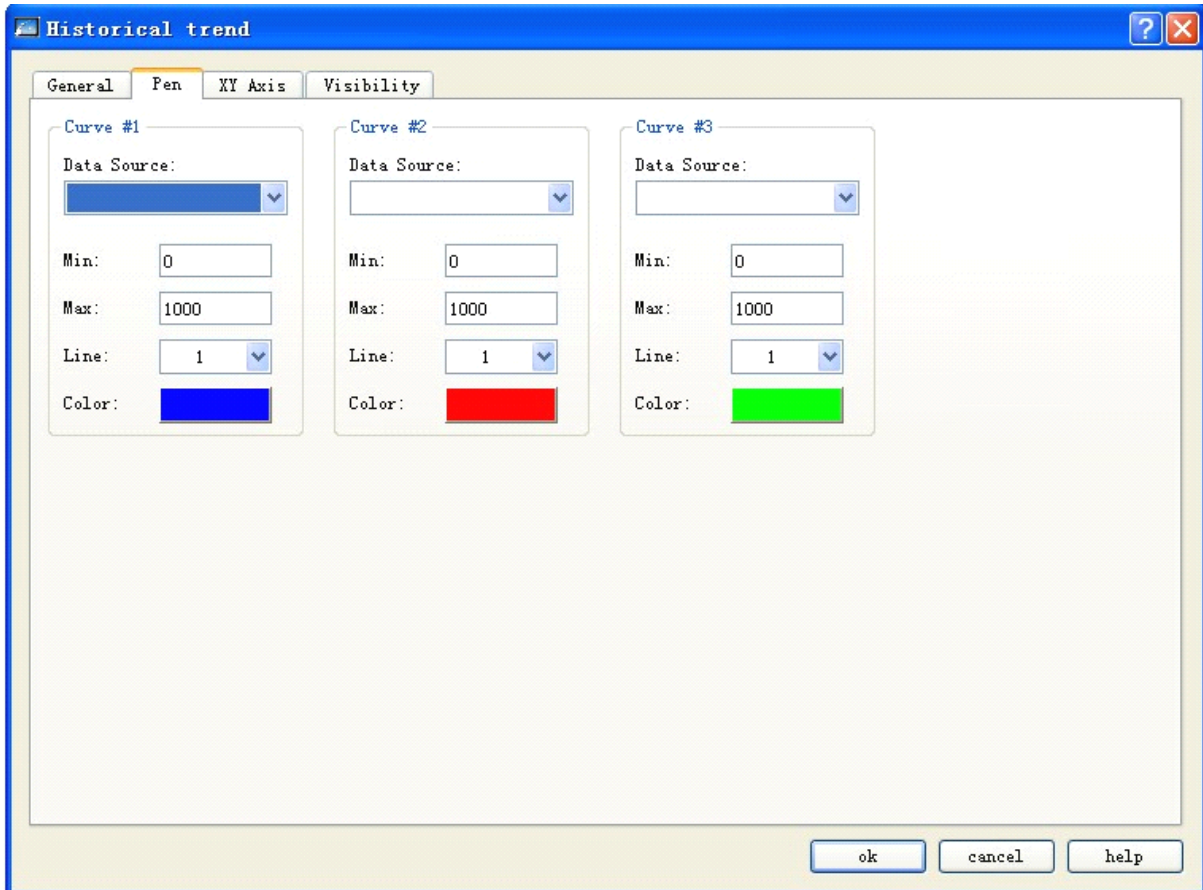

Figure 4-59: Pen tab of historical trend chart
2. Page of “Pen” in historical tendency chart as shown in Figure 4-59: